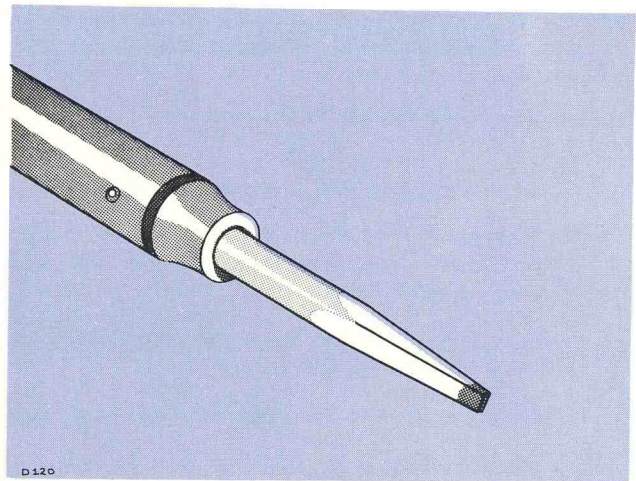

Fig. 4-1 Preparation of soldering iron tip
Because of the shape of the terminals on the ceramic strips it is advisable to use a wedge-shaped tip on your soldering iron when you are installing or removing parts from the strips. Fig. 4-1 will show you the correct shape for the tip of the soldering iron. Be sure and file smooth all surfaces of the iron which will be tinned. This prevents solder from building up on rough spots where it will quickly oxidize.
2. Prepare the tip of the iron as shown in Fig. 4-1.